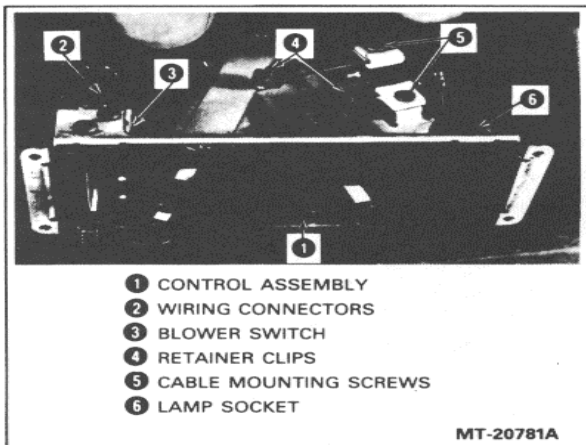

Figure 24. - Control Assembly and Cables
2. Remove control assembly mounting screws. Remove control assembly trim plate. Pull control assembly outward (Figure 24). It may be necessary to remove ash tray to allow movement of control assembly.
3. Remove control assembly mounting screws and trim plate. Pull control assembly away from instrument panel (Figure 24).
4. Remove screw retaining cable flag to bracket (Figure 24).